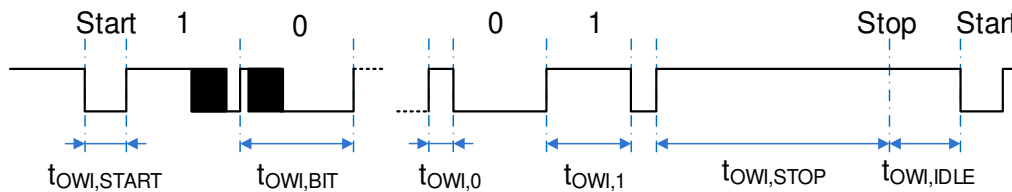
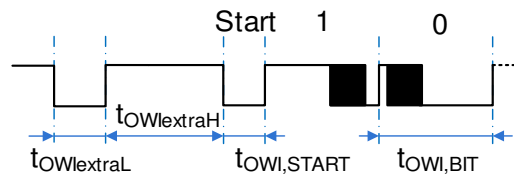

Figure 14. OWI Timing Diagram
Figure 15. OWI Extra (Activation) Pulse for Concurrent OWI and Analog Output Configuration
- **Valid Data:** Data is transmitted in bytes (8 bits) starting with the most significant bit (MSB). Transmitted bits are recognized after a start condition at every transition from low to high at the OWI line. The value of the transmitted bit depends on the duty ratio between the high phase and high/low period (bit period, $t_{OWI,BIT}$ in Figure 14). A duty ratio greater than 1/8 and less than 3/8 is detected as 0; a duty ratio greater than 5/8 and less than 7/8 is detected as 1. The bit period of consecutive bits must not increase to more than 1.5 times the previous bit period or decrease to less than half of the previous bit period because a stop condition is detected in this case.
OWI protocol timing and parameters are specified in Figure 14, Figure 15, and Table 23.
- **Continuous OWI and Analog Output:** The configuration *owi_off* = 0, *cont_ANAoutn* = 0, and *owi_su_case* = 1 results in AOUT providing analog output levels as soon as they are available after power-up (in Cyclic Mode). Concurrently, the OWI listens to the AOUT¹ pin in order to check for valid OWI commands. The OWI still needs to be enabled by means of the *Startup OWI* command. The physical protocol in this configuration requires an extra pulse (see Figure 15) prior the *Startup OWI* command. After the release of the extra OWI initialization pulse, the analog output is switched off² and AOUT becomes the OWI I/O pin until the OWI startup window (according to *owi_su_length*) has elapsed. The OWI-master implements *Dynamic Driving* to avoid dynamic currents (due to DAC-output level changes) causing unwanted pull-up signal generation (via *ROWI,PULL*). When *Dynamic Driving Approach* is not applied in this configuration, set the constantly connected OWI-master pull-up resistances (*ROWI,PULL*) to ≥5.5kΩ to prevent erroneous OWI-start detections that can be triggered by changing DAC-output levels. Limit the interface speed to slower values with the proper setting, such as longer bit period.